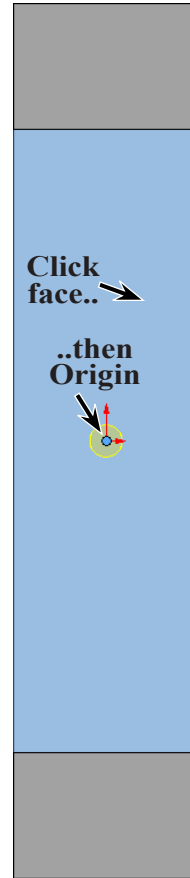

Fig. 11
Step 5. Click **top face** one time as face for hole, **Fig. 11**.
Step 6. Click **Origin**  to place hole, **Fig. 11**.